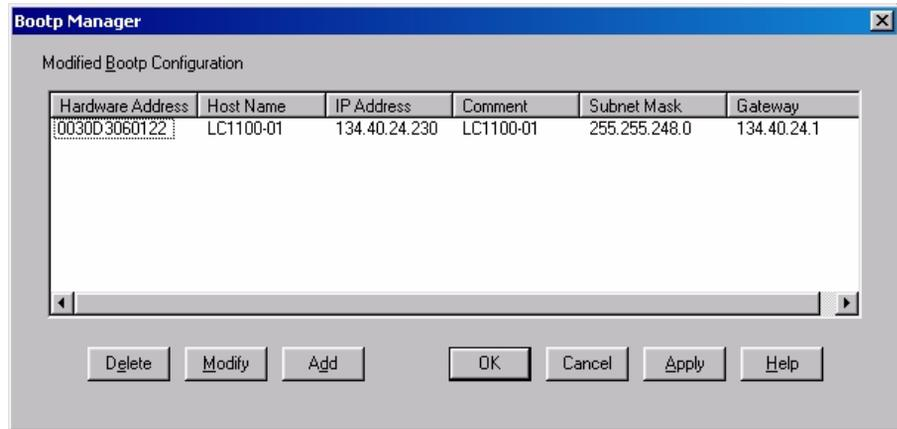

Figure 22 Bootp Manager
- 8 Select *Configure* -> *Bootp Manager*. All entries made above are shown in Figure 22 on page 34.